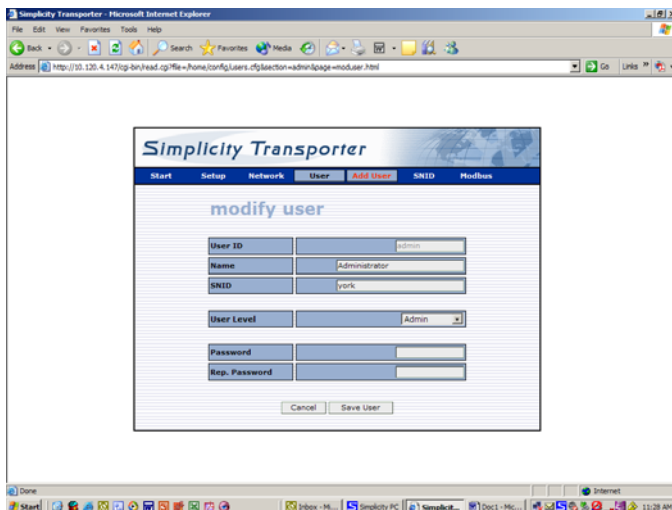

Figure 8
11. From this screen select the “Pencil/Modify user” icon. This will take you to the “Modify User” screen illustrated in figure 8. This is where you will change the password to your own. The password is case sensitive. Remember the password you select, the next time you log on use “Admin” as your user name and your new password. Select the “Save User” button.